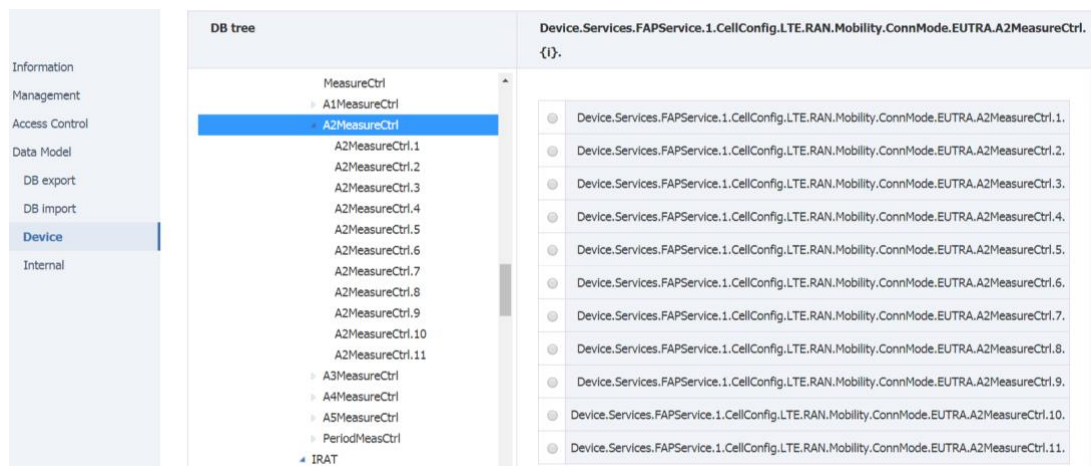

Figure 4-44 A2 event
1. The measurement of the different frequency / different system is triggered by the A2 event, as shown in figure 4-44. There are 11 groups of A2 events in total, which need to be focused on 1 to 7, which are respectively used in different scenarios: